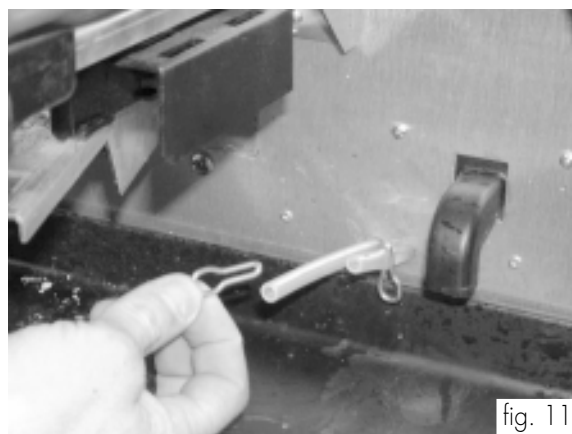
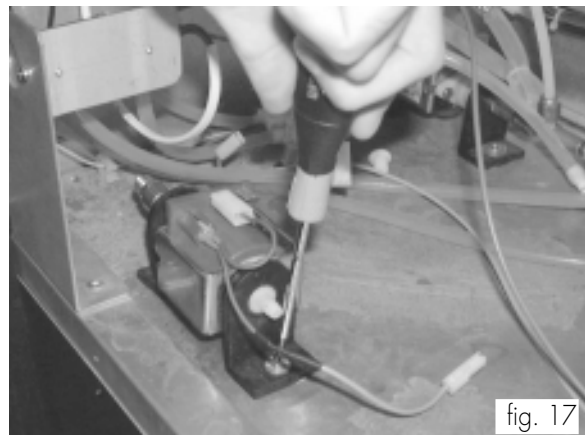

fig. 11
fig. 13
- Open the upper door and take out the retaining spring from the left hand pipe (fig. 11).
- Apply the pipe retaining spring (see fig. 11) on the silicone pipe (ref. t, fig. 12) fitted on "T" and previously removed from the inlet solenoid valve (fig. 13).